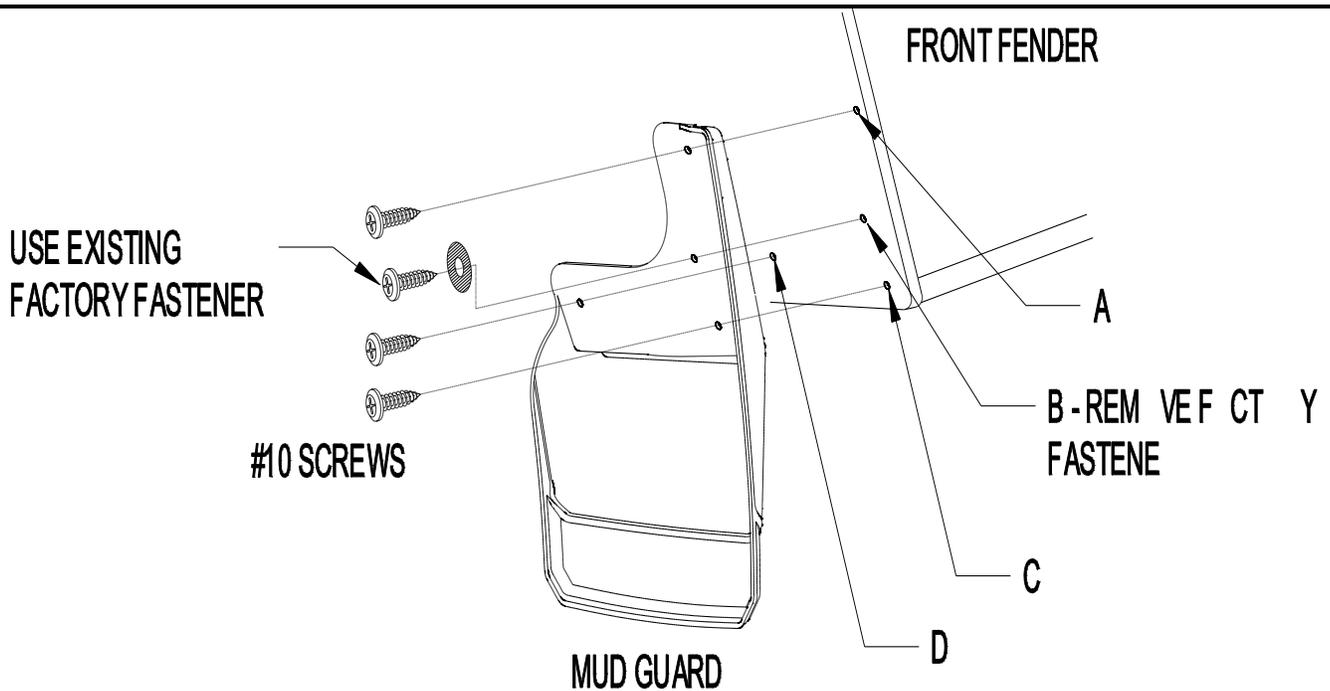

Figure 1
2. Remove factory fastener from location B (Figure 1).